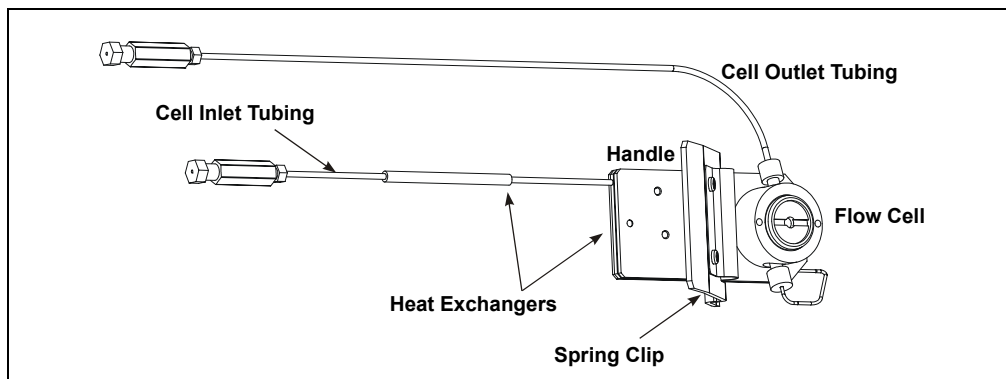

Figure B-2. Flow Cell Connections
2. Connect the cell inlet tubing to the union fitting on the heat exchanger tubing (see Figure B-2).
3. Connect a backpressure line made from 0.25-mm (0.010-in) ID tubing to the cell outlet connection (see Figure B-2).